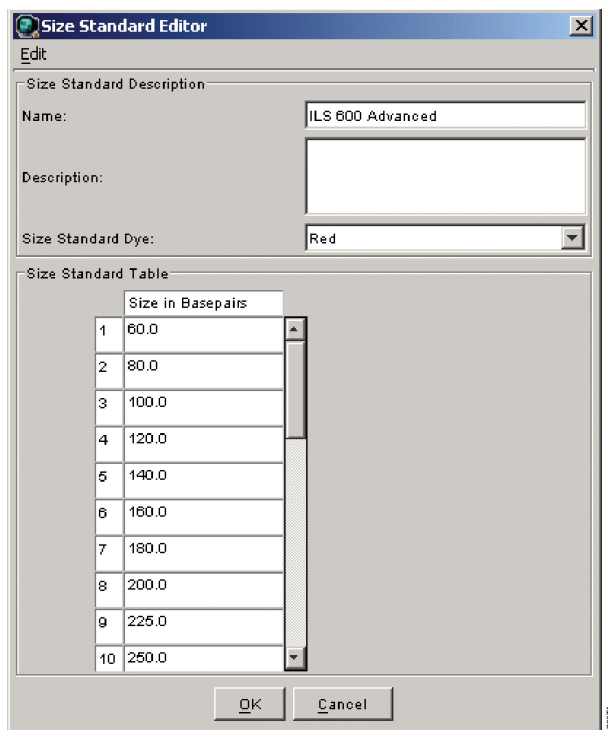

Figure 12. The Size Standard Editor
5. Enter a detailed name, such as “ILS 600 Advanced”, in the Size Standard Editor (Figure 12).